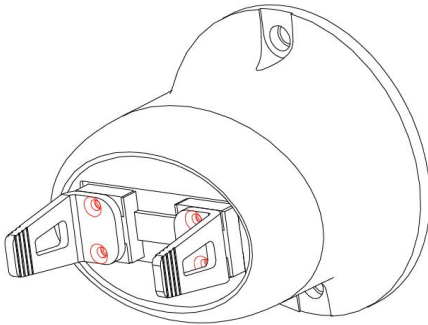

Figure 1
**Note:** There are two ways to install the gripper, using the tool to unscrew the 4 red screws, Figure 1 can be changed to Figure 2